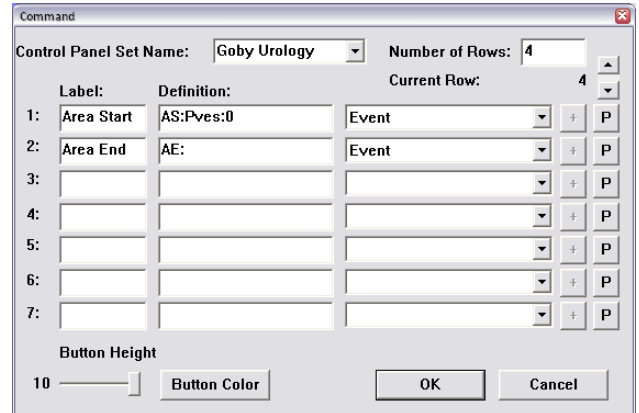

Figure 65: Command Box
* The **Area Start** button is set with the format *AS:pressure channel:threshold value*. In this example: *AS:Pves:0* means that the area under the Pves curve above a threshold of 0 will be calculated (Figure 65).